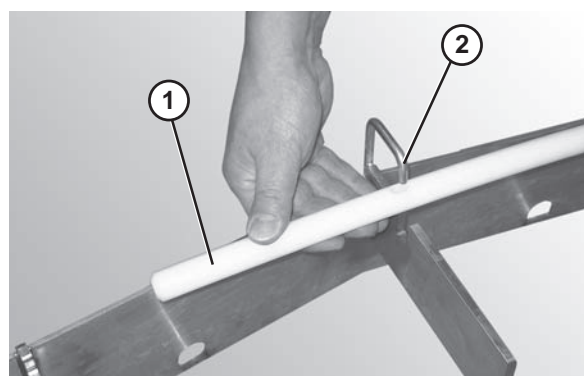

Figure 27
2. Attach the hold down wear strip (**Figure 27, item 1**) to the frame hooks (**Figure 27, item 2**) on the outside of the frame.